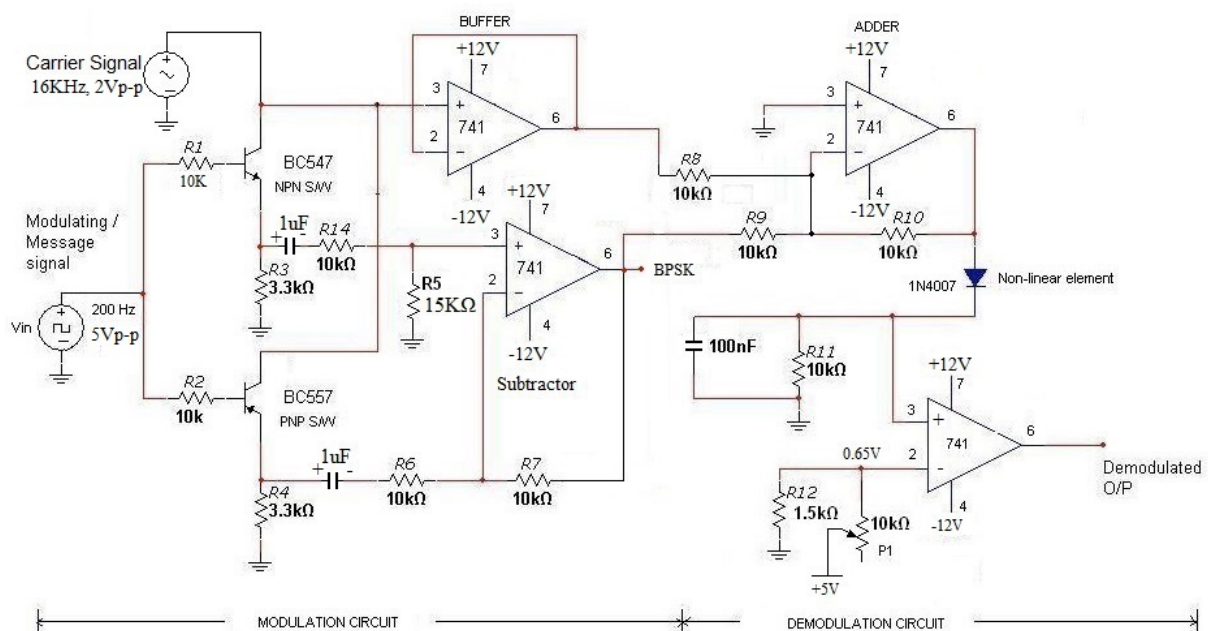

Figure 1: BPSK Modulation and Demodulation
1. Connect the circuit as given in Figure 1.
2. Give Square wave as a message signal of $5V_{pp}$ and $200Hz$ at the base of NPN and PNP BJT switches as shown in Figure 1. Give sinusoidal carrier signal of $16KHz$ and $2V_{pp}$ at the collector of NPN BJT switch.